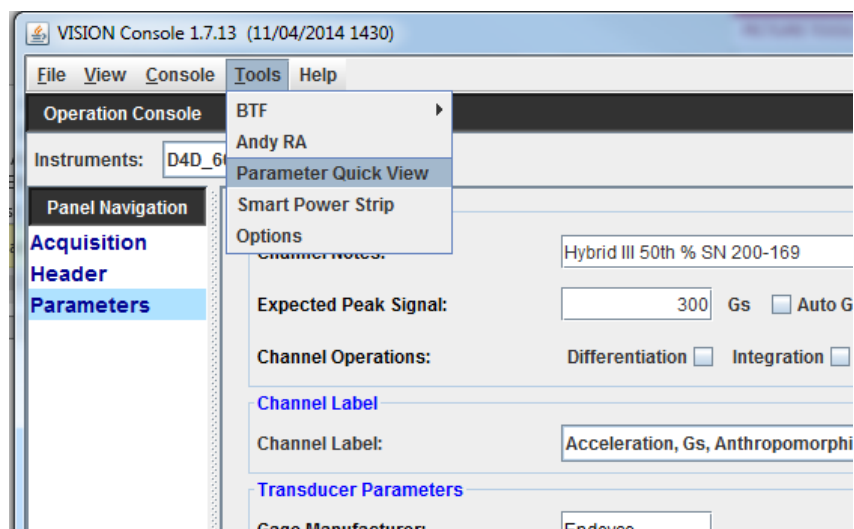

Figure 14. Parameter quick view.
d. After configuring all of the channels, a useful tool to ensure that all parameters are set correctly is the Parameter Quick View. This is located under the tools tab at the top of the screen (Figure 14). In the Parameter Quick View panel the user can configure the table to show different values. Once parameters have been verified the user can now start operations of the D4D (Figure 15).